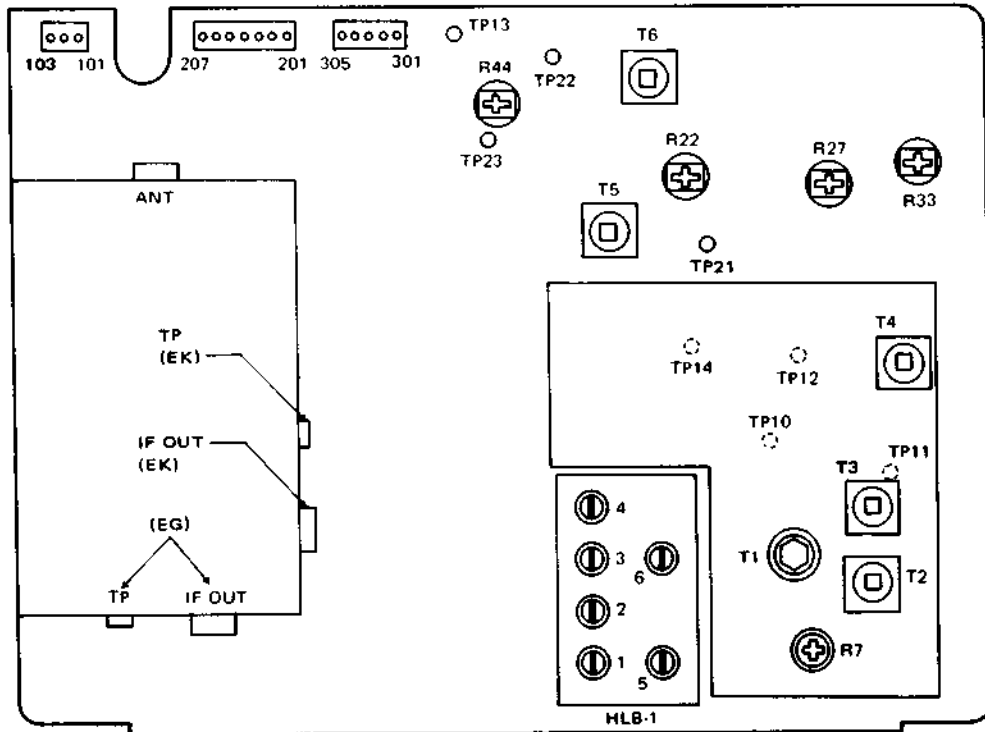

Fig. 3-3A Tuner & IF board
- 2) Connect generator probe to tuner test point (see Fig. 3-3A).
- 5) Vary the AGC voltage and adjust HLB core 5 to minimize the 40.4 MHz (EG), 41.5 MHz (EK) pulse marker.